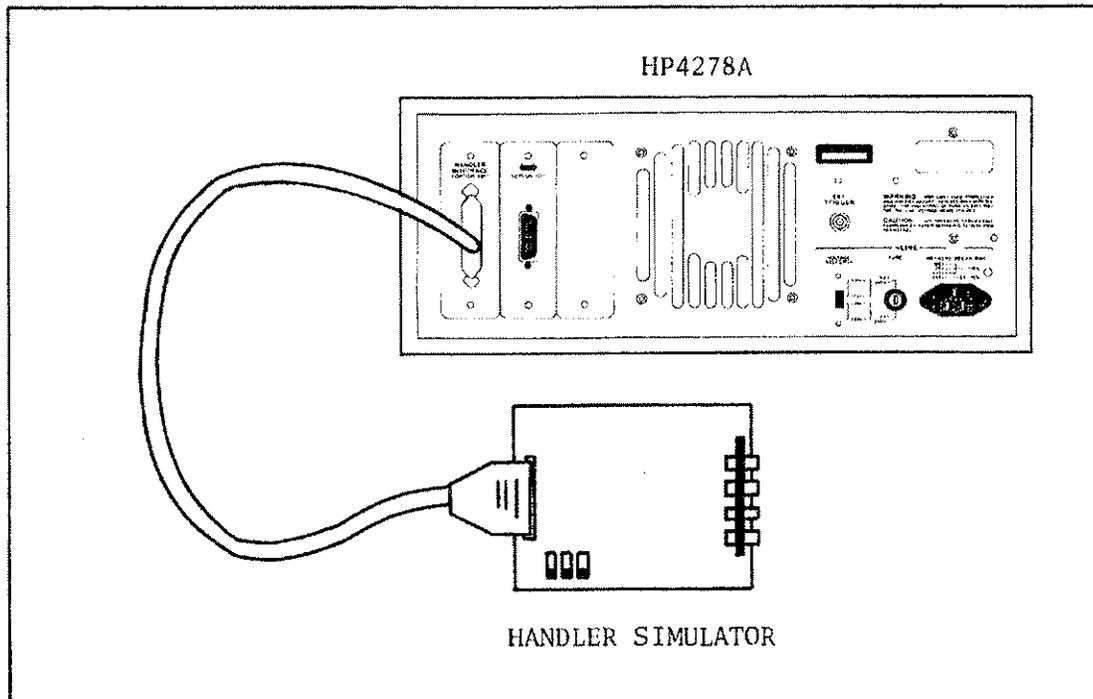

Figure 6-11. Handler Interface Test Setup (Option 201)
11. Connect the handler interface connector on the 4278A's rear panel to the handler simulator as shown in Figure 6-11.